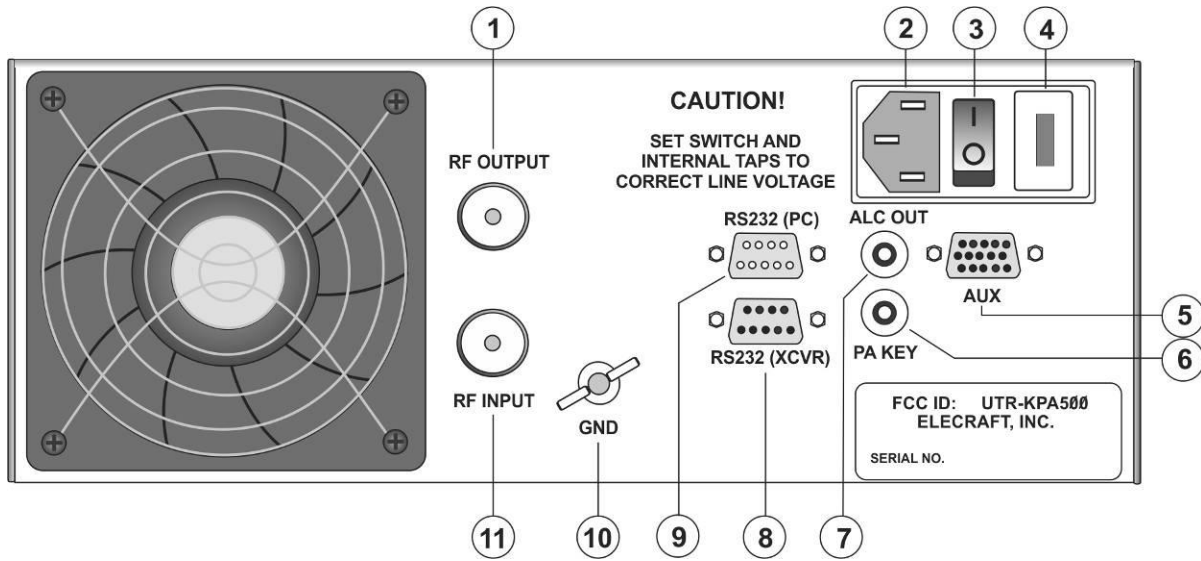

Figure 1. KPA500 Rear Panel
The KPA500 rear panel is shown in Figure 1. The connectors and controls are described following the figure.
⚠ Always turn the amplifier off using the rear panel switch (③ in Figure 1) before attaching or removing cables.